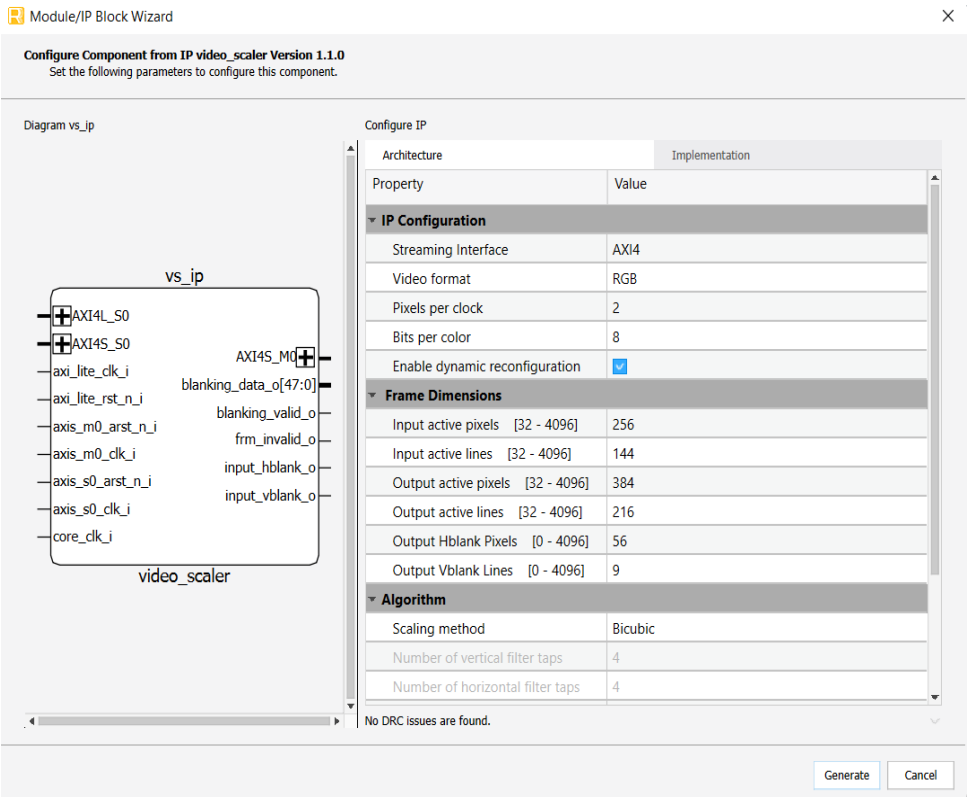
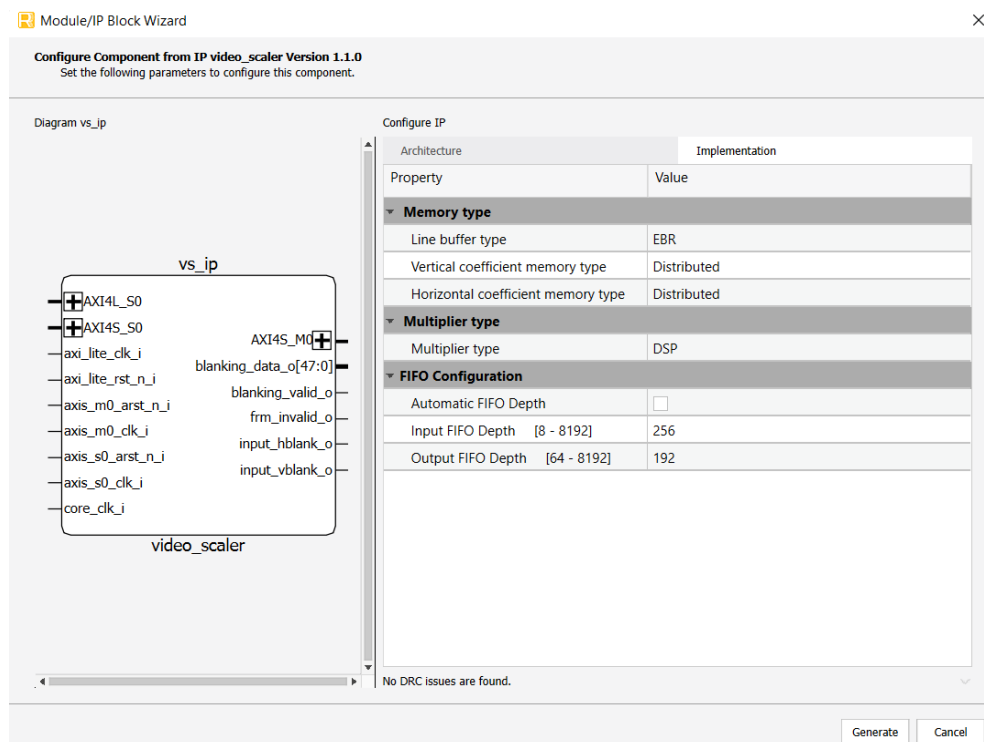

Figure 5.6. Video Scaler IP GUI screen for 720p to 1080p and PARTIAL_RESOLUTION=5
Figure 5.7. Video Scaler IP Implementation tab for 720p to 1080p and PARTIAL_RESOLUTION=5
- If the value for PARTIAL_RESOLUTION parameter is a number above 1, the Frame Dimensions values must be divided by that parameter. For example, for 720p to 1080p up-scaling with PARTIAL_RESOLUTION set to 5, set the parameters as shown in Figure 5.6. Similarly, divide the parameters (HBLANKIN and VBLANKIN) defined in Table 4.1 by 5.
- If the value for PARTIAL_RESOLUTION parameter is a number above 1, make sure to select the *Input FIFO Depth* parameter of Video Scaler as twice its default value. For example, for 720p to 1080p up-scaling with PARTIAL_RESOLUTION set to 5, the Input FIFO Depth is set to 256 in Implementation tab shown in Figure 5.7.
Opening and Running the Project	- Updated Figure 5.4. Module/IP Block Wizard for dp_ip, Figure 5.5. Module/IP Block Wizard for vs_ip, and Figure 5.6. Video Scaler IP GUI screen for 720p to 1080p and PARTIAL_RESOLUTION=5. - Added Figure 5.7. Video Scaler IP Implementation tab for 720p to 1080p and PARTIAL_RESOLUTION=5 and updated sequence of the following figures accordingly.